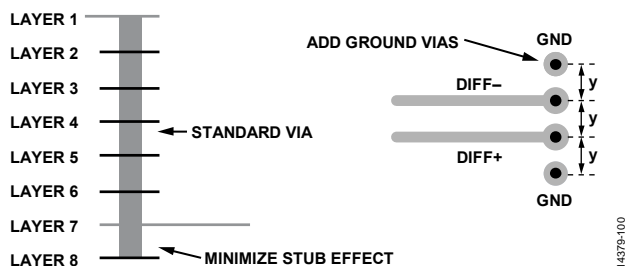

Figure 176. Minimizing Stub Effect and Adding Ground Vias for Differential Stripline Traces
- If using standard vias, use the maximum via length to minimize the stub size. For example, on an 8-layer board, use Layer 7 for the stripline pair (see Figure 176).
- For each via pair, place a pair of ground vias adjacent to them to minimize the impedance discontinuity (see Figure 176).